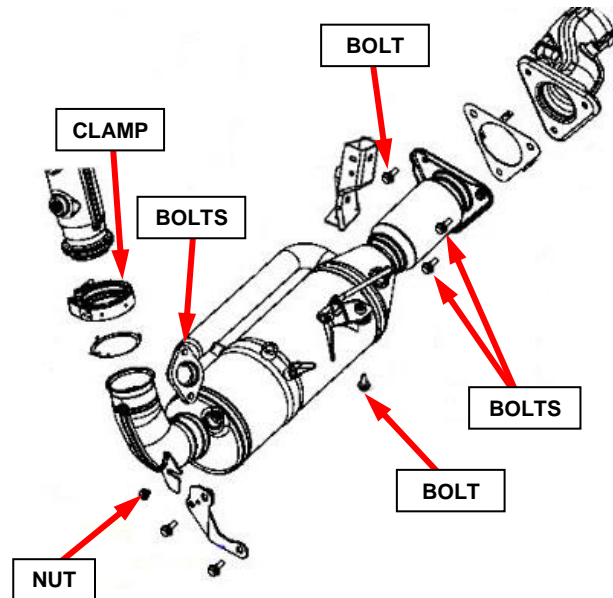

Figure 6 – Diesel Particulate Filter Saturate Fasteners with Rust Inhibitor
8. Saturate the Diesel Particulate Filter (DPF) fasteners and tube connections with Mopar® Rust Inhibitor. Allow for penetration while removing the drive shafts (Figure 6).